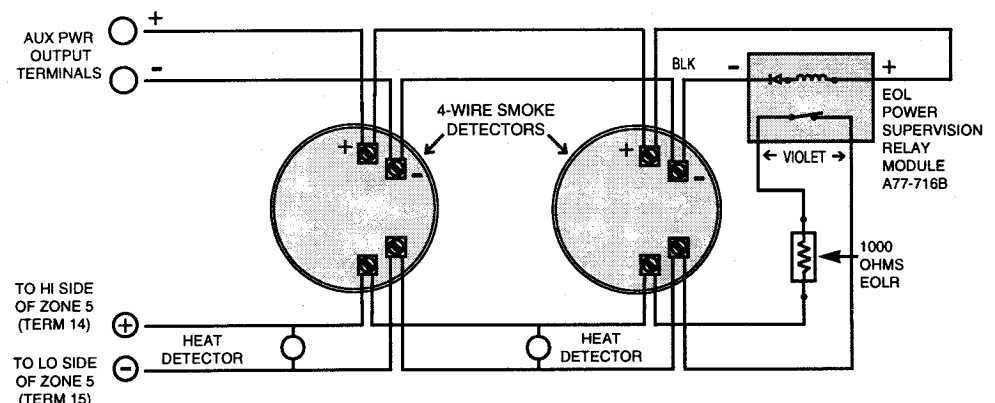

Figure 7. 4-wire Smoke Detector Connections to Zone 5
1. Connect 12 volt power for the detectors from Auxiliary Power terminals 4 and 5, (which will interrupt power for fire alarm reset). Observe proper polarity when connecting detectors. See Figure 7. If 4-wire detectors are used on any zone other than zone 5, a separate reset switch must be used (to interrupt Aux power to the detector).